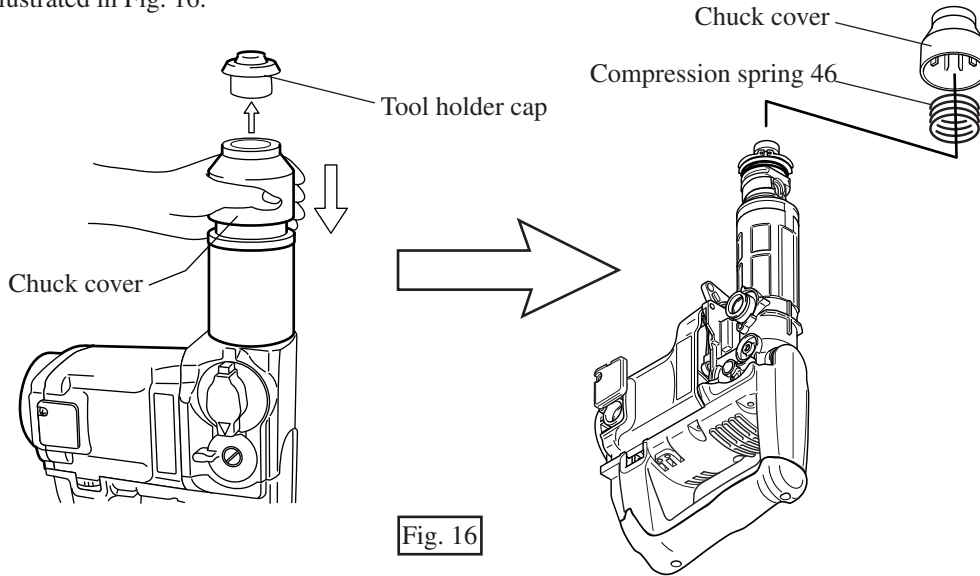

Fig. 16
(1) Pull chuck cover down and take off tool holder cap. And then, remove chuck cover and compression spring 46 as illustrated in Fig. 16.